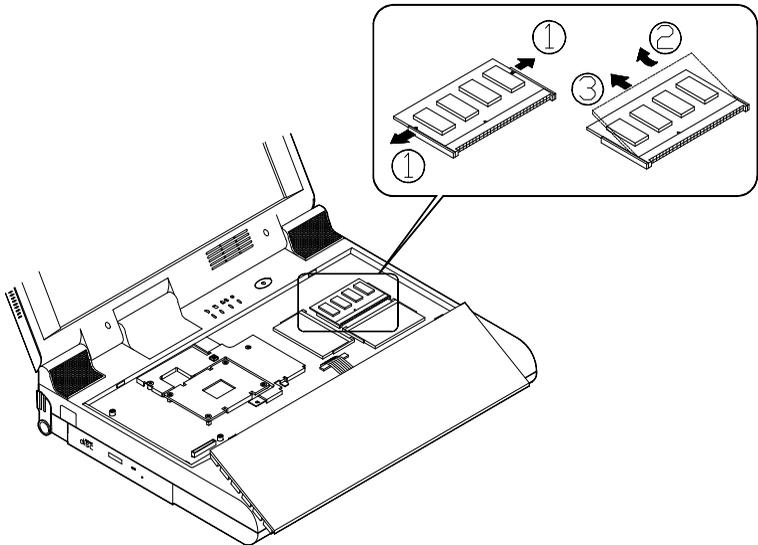

Figure 2-7
4. Gently pull the two latches outward on both ends of the module. The module will pop up (Figure 2-7).